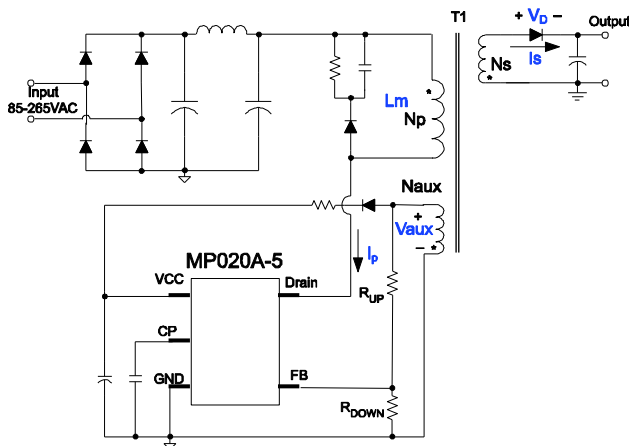

Figure 3: Simplified Flyback Converter
After start-up, the internal MOSFET turns on, and the current sense resistor (R_{CS}) senses the primary current (i_P(t)) internally (see Figure 3). The current rises linearly at a rate that can be calculated with Equation (1):